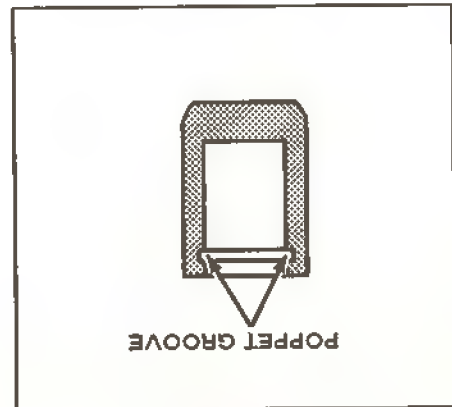

Figure 29. Insert Poppet
2. Use a suitable extractor and remove the poppet from the sleeve. Apply the extractor tool at the poppet groove as shown in Figure 29.